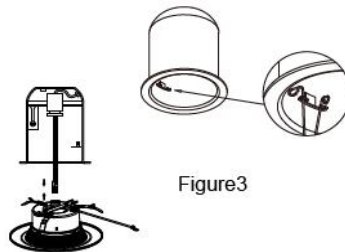

Figure3
①The lamp at both ends of the spring are arranged inside the lamp holder bayonet, (as shown in Figure 3) through the spring pressing on both sides, so that it can be on both sides of the bayonet.
②If using friction clip blades, while wearing gloves squeeze. opposing clips together until clips fit inside housing. then carefully insert retrofit kit into housing allowing springs to expand to hold in housing.